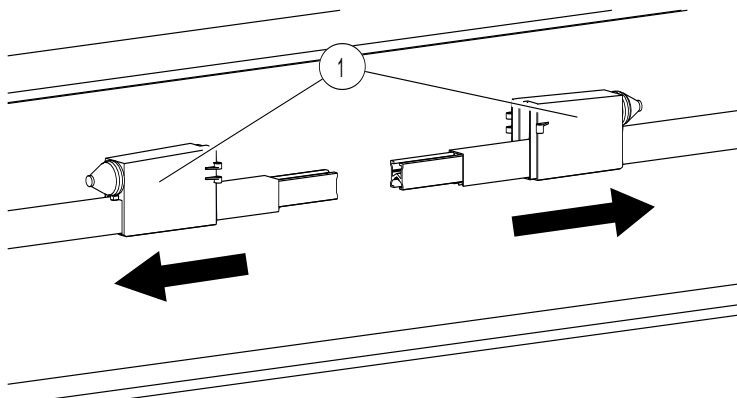

Fig. 80: Slide the insulating cap halves onto the conductor rail ends
- Slide the insulating cap halves (Pos. 1) of the line feed over the ends of the conductor rail (see Fig. 80).